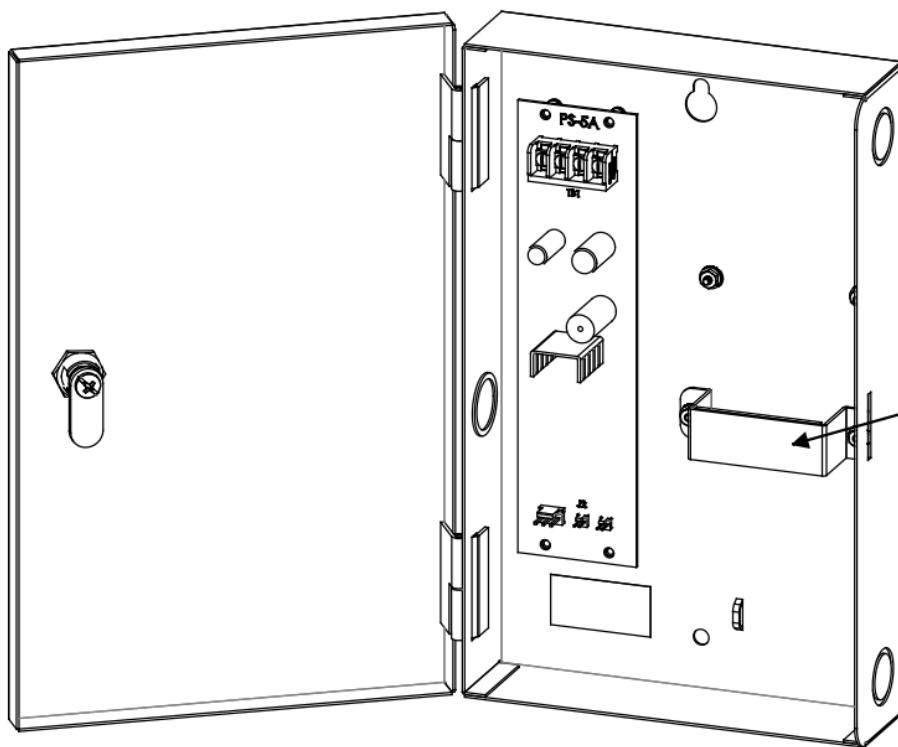

Figure 4 Remove Bracket and Nuts
The Single Node Upload solution requires kit assembly and should be installed within 5 feet of the PMI it is connected to. See Figures 4 and 5 for installation requirements.
3. Remove bracket and the (2) nuts and put them on the side. See Figure 4 (The bracket is not needed on this application).